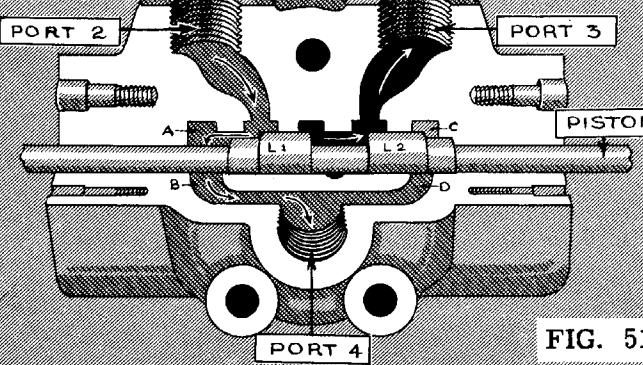

FIG. 51
This valve (Fig. 50), known as a four-way valve, has four threaded openings or ports which are connected with various members of the hydraulic system with pipes. Port 1 at the rear, used as an intake port only, admits oil from the pump. Port 4, used as an exhaust only, emits oil and returns it to the reservoir. Ports 2 and 3, connected to the left and right-hand ends of the ram cylinder, respectively, serve in both capacities. For example, when port 2 serves as an intake port and port 3 as an exhaust (Fig. 51), the ram moves to the left. When the functions of these ports become reversed, then the ram moves to the right.
This valve, like most valves used in a hydraulic system, is of the piston or plunger type. Although different makes of valves vary in construction, all of them function in much the same manner as the one described. In the valve shown in Fig. 51 a sliding piston of circular cross section controls the passage of oil from the intake to a selected exhaust port by routing it through inter-connected channels or grooves within the valve chamber.
The piston, instead of being of one diameter throughout its entire length, has been reduced somewhat in its center section to permit a connection between adjacent ports and channels, lands (L_1) and (L_2) serving to block channels to which fluid should not be admitted. For example, in Fig. 51, the piston has been moved to the right within the valve chamber. With the piston in this position, oil under pressure enters the valve chamber through channels connected with port (1) in the rear, passes through the space between the lands of the piston, goes on to the opening leading to port (3), and then passes through pipes to the right-hand end of the ram cylinder, causing the ram to move to the left.